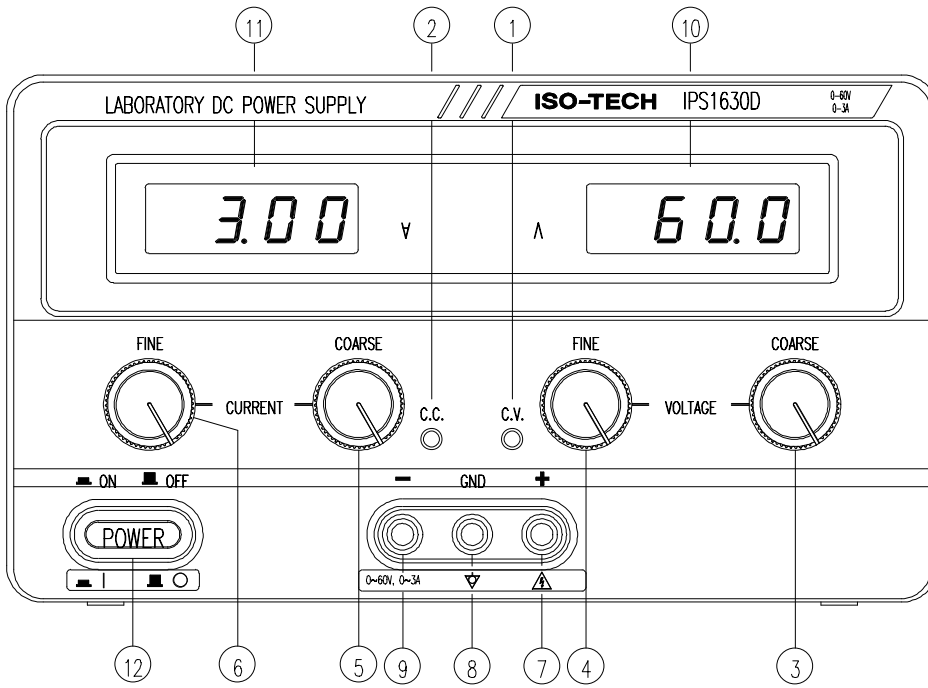

Figure 3-1 (Front Panel—IPS1603D)
3.1 Front panel (see figures 3-1 and 3-2)